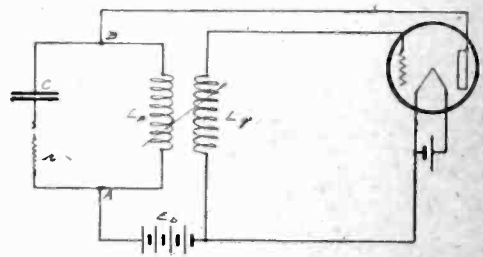

Fig. 9. Generating Circuit With Coupled Grid and Plate Inductances.
**GRID POTENTIAL AND COUPLING.** In the Hartley circuit of Fig. 7 the instantaneous grid potential is determined by the potential across  $L_g$ . This potential is a function of  $L_g$  and the current flowing in this coil. Here,  $L_g$  and  $L_p$  are not mutually coupled. Referring to the circuit of Fig. 9, it will be seen that
By definition, the mutual inductance of two coils such as  $L_g$  and  $L_p$  of Fig. 9 is the number of interlinkages of magnetic flux from coil  $L_p$  with  $L_g$  per ab-